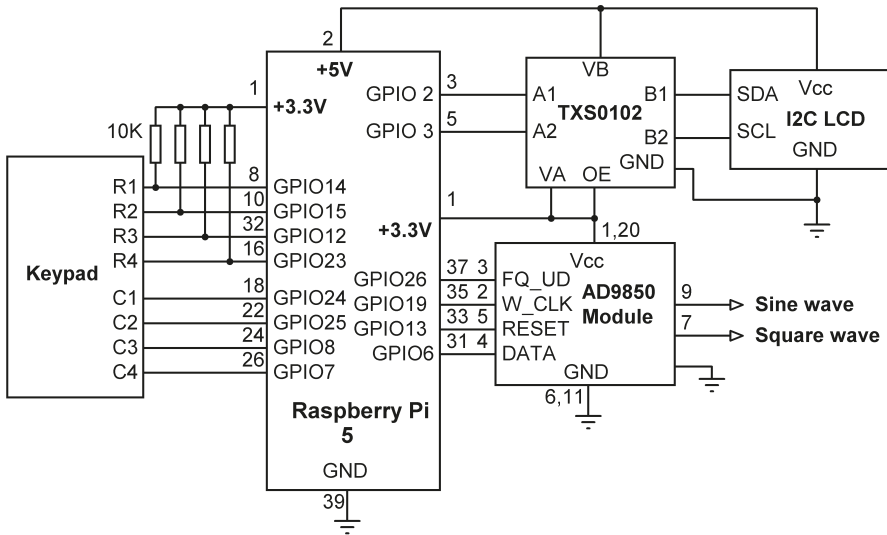

Figure 4.41: Circuit diagram of the project.
**Circuit Diagram:** Figure 4.41 shows the circuit diagram of the project. The I2C LCD is connected to the Raspberry Pi 5 as in the previous projects, where GPIO 2 and GPIO 3 are used as the SDA and SCL pins respectively. The AD9850 module and the 4x4 keypad are connected to the following GPIO pins of the Raspberry Pi 5.